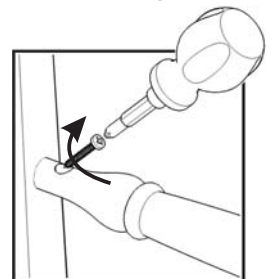

Figure 3
Attach Side Stretchers (B) to Leg (D) and (E) Side with Wood Screws. (see Figure 3)